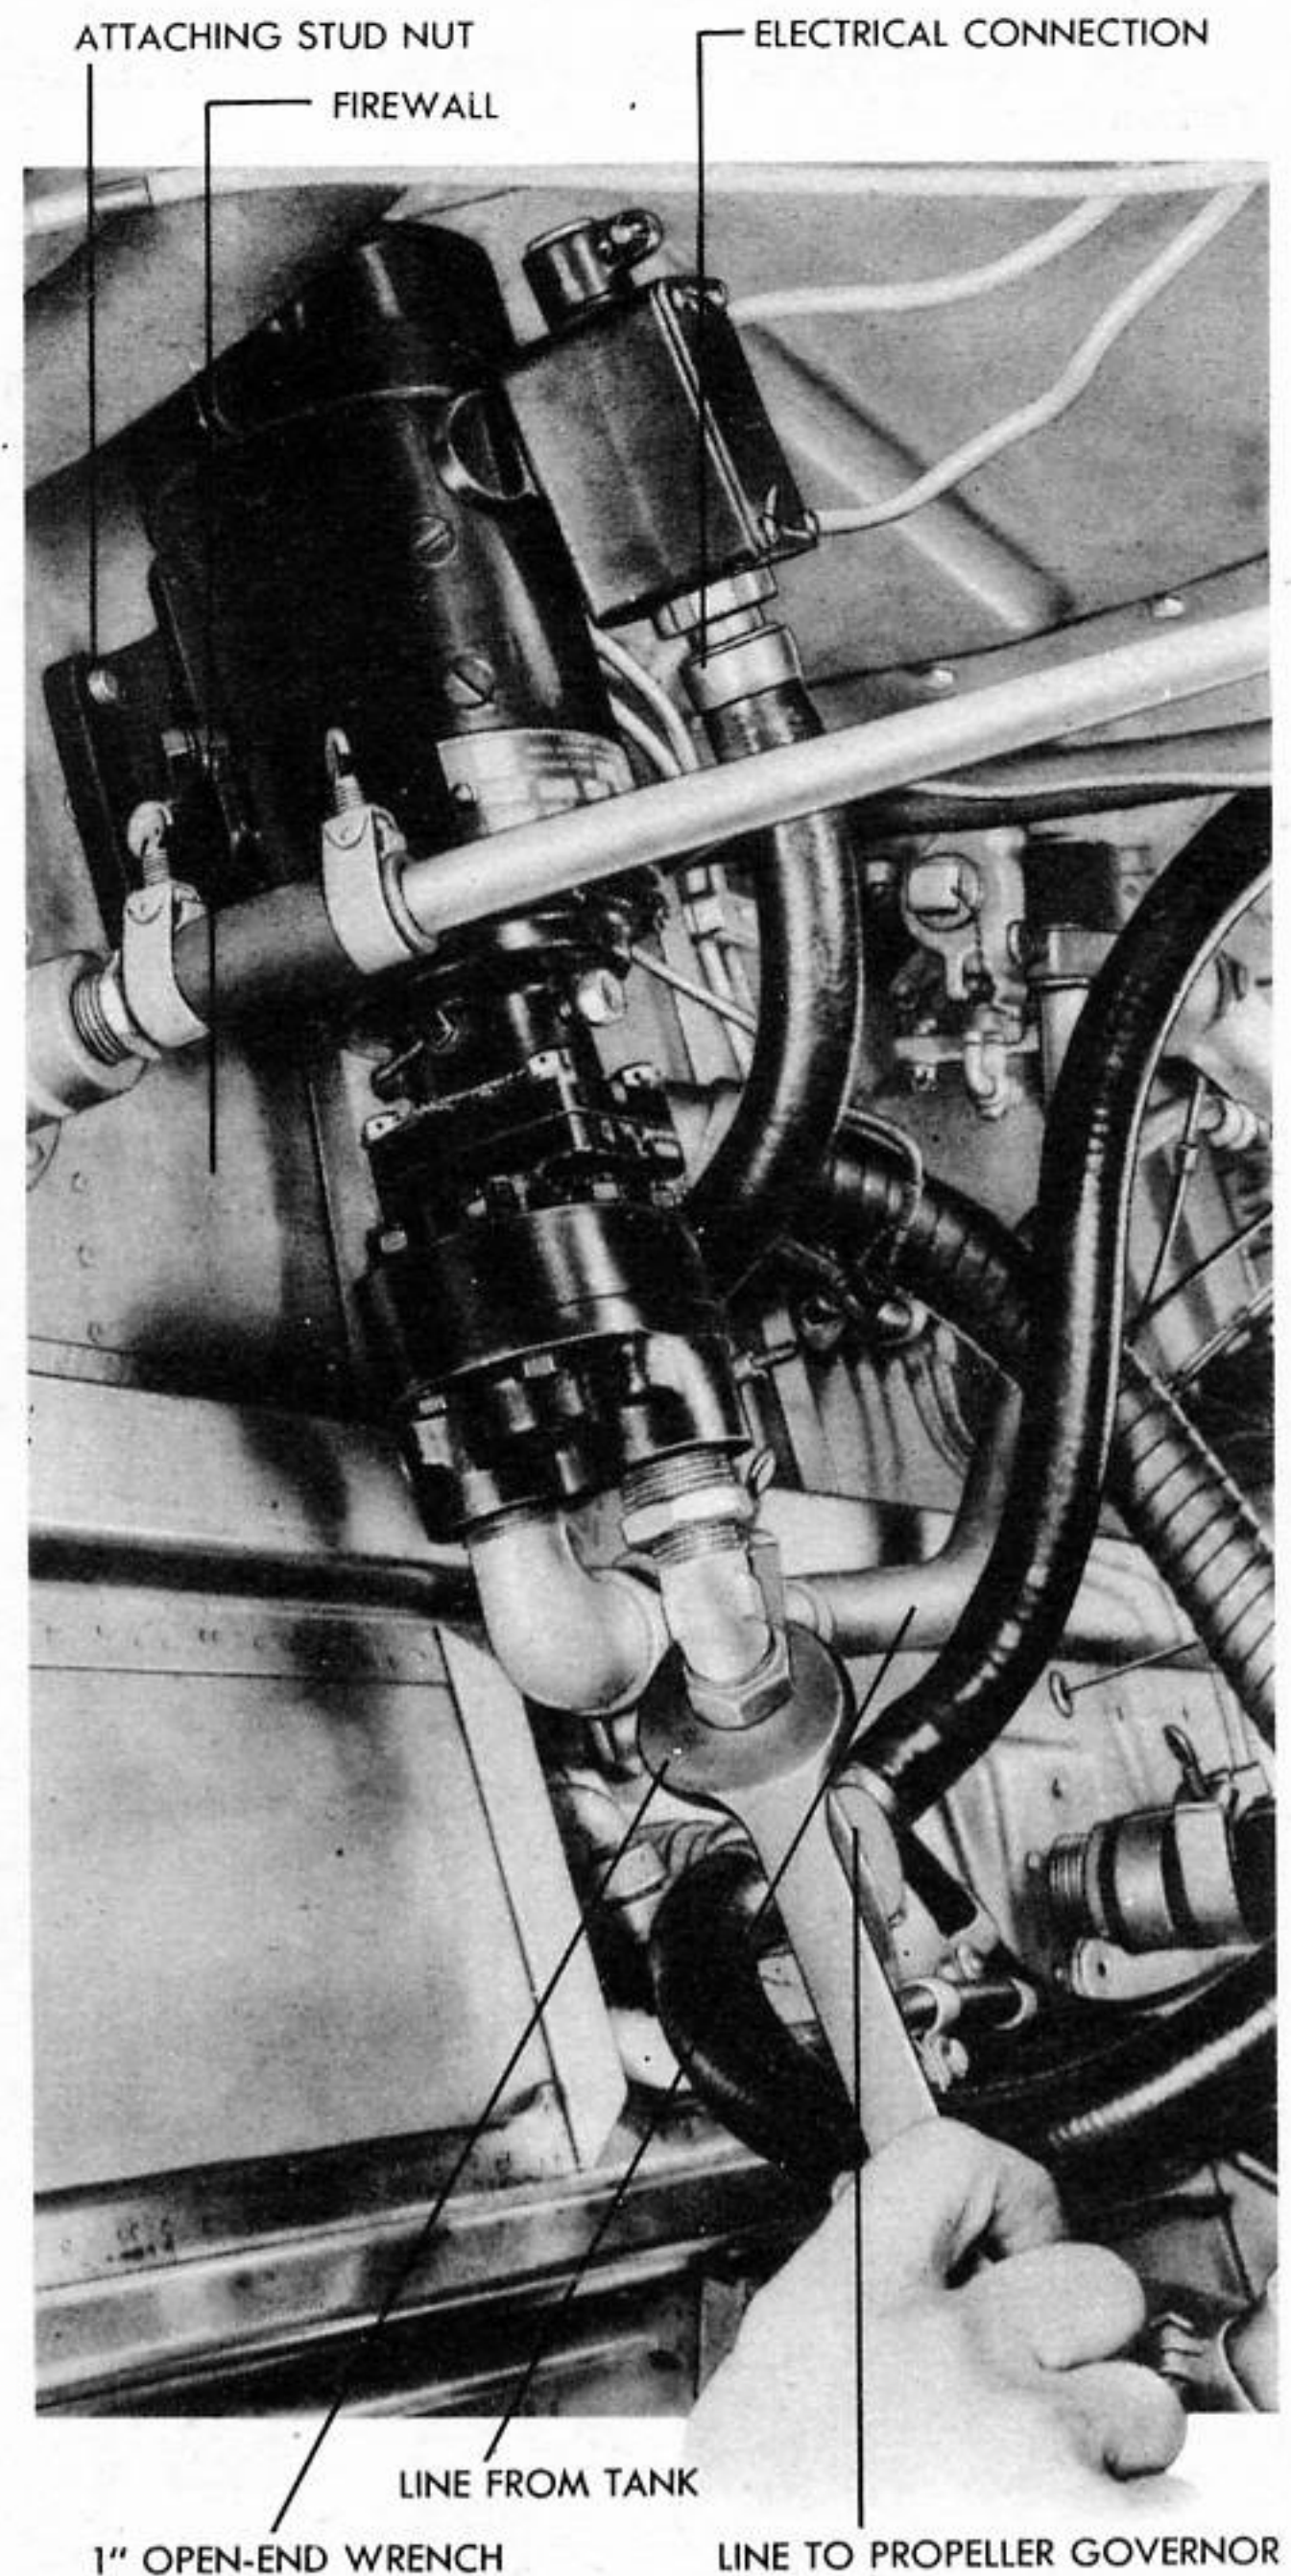

Figure 135 - REMOVING PROPELLER FEATHERING PUMP
(9) REMOVAL OF PROPELLER FEATHERING PUMP. (See figure 135.)
(1) INSTALLATION OF THE PROPELLER FEATHERING PUMP. (See figure 135.)